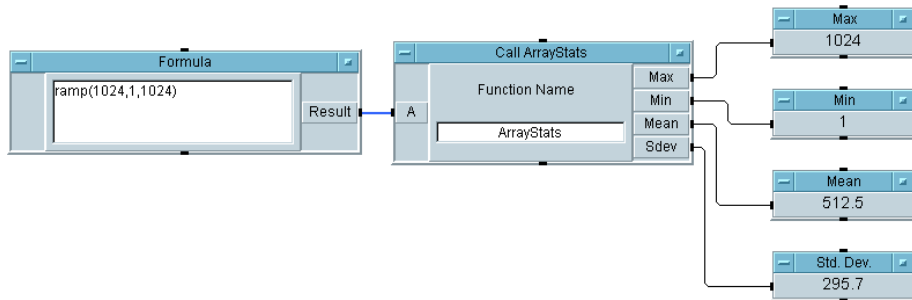

Figure 7-3. Calling the User Function ArrayStats
6. Run the program. It should look like Figure 7-3. Save the program as array_stats.vee.